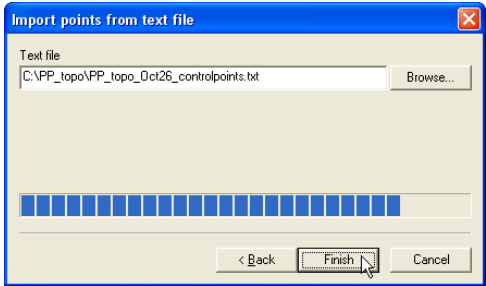

Figure 9-4. Open Control Point Text File
4. Click **Finish** to import the control points (Figure 9-4). The information from the selected file is added to the 3D Project file.